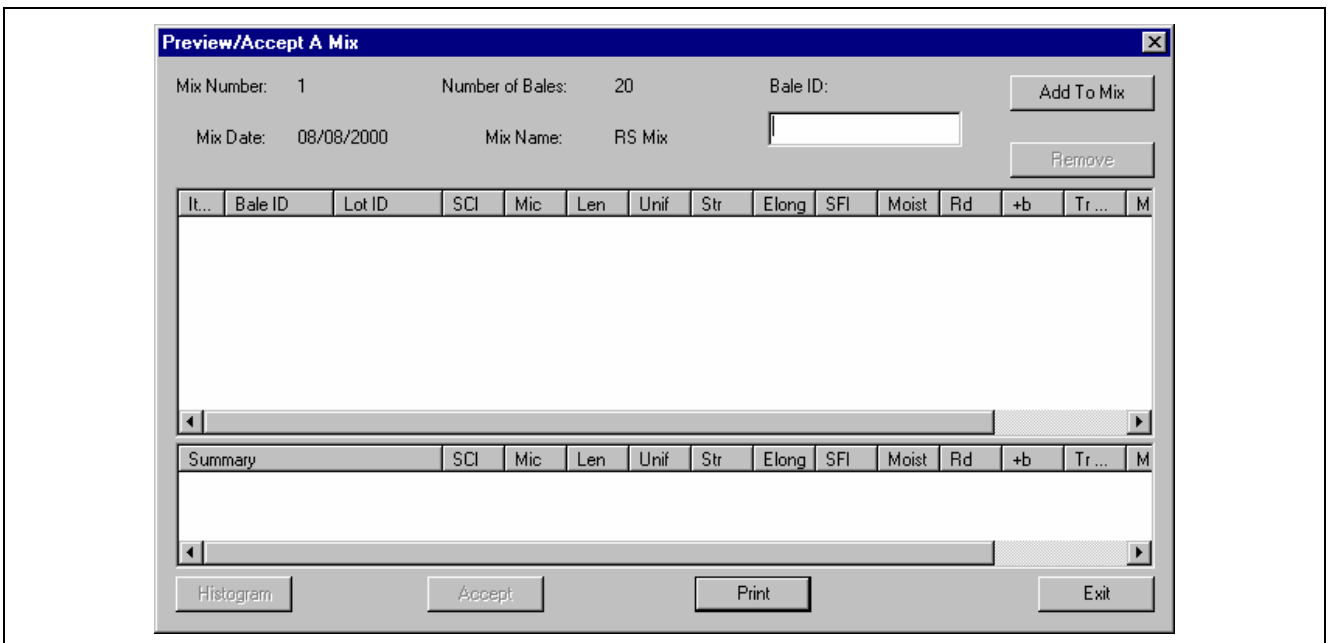

Fig. 6-90 Preview/ Accept A Mix Screen I
27.8 In the Preview/Accept A Mix window of Fig. 6-90, select Histogram to see the Mix Preview Histogram window. Use the pull down arrow at Property to select SCI (Fig. 6-93), then select OK.
27.10 In the Bale Manager window of Fig. 6-58, select Mix then Preview/Accept to see the Preview/Accept A Mix window. Use the pull down arrow to select 1-RS Mix, and then OK to see the Preview Accept A Mix window of Fig. 6-90.